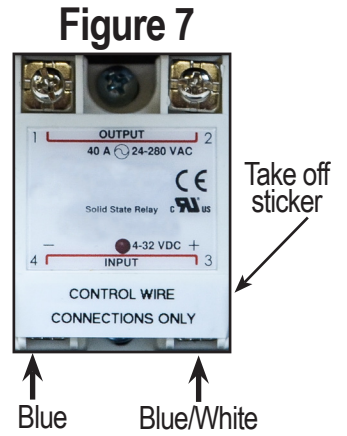

Figure 7
3. Remove the "CONTROL WIRE CONNECTIONS ONLY" label on the Relay Module (Figure 7).
4. Connect the **blue/white** cable to **terminal 3 (+)** and connect the **blue** wire to **terminal 4 (-)**. (Figure 7)